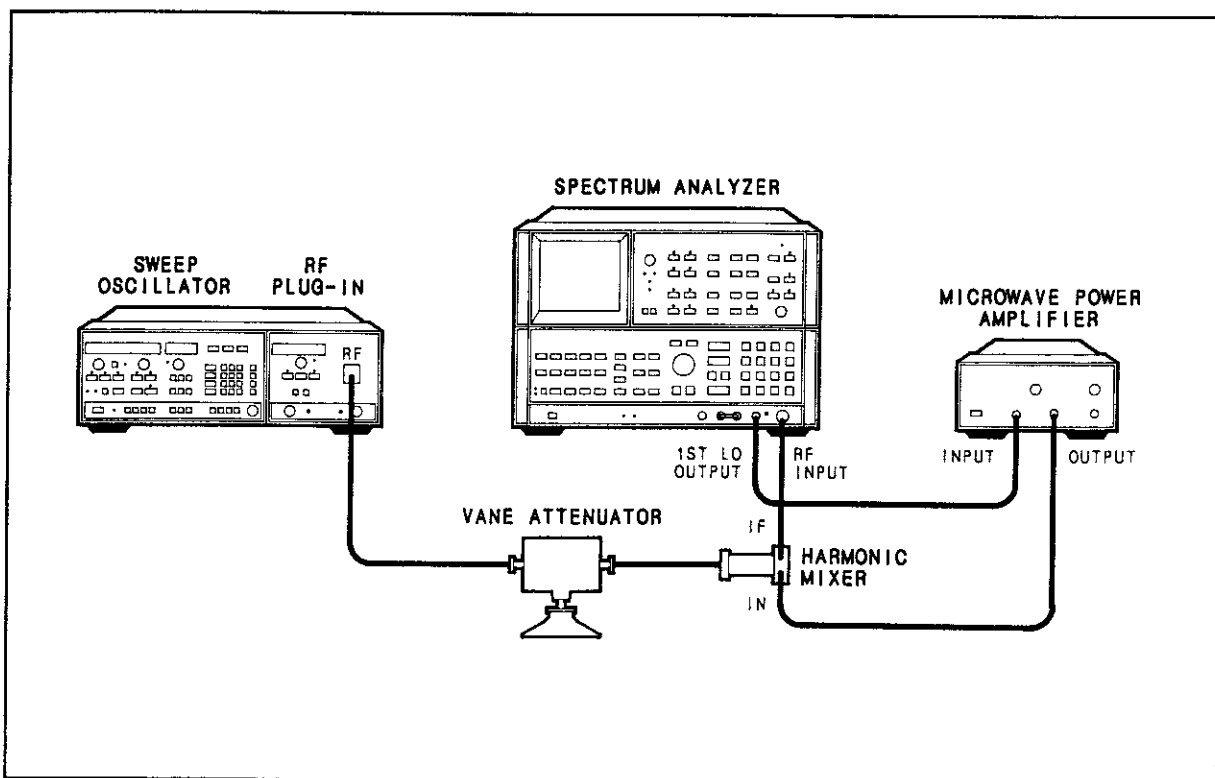

Figure 4-14. AM ON/OFF Ratio and Square Wave Symmetry Test Setup
1. Connect the equipment as shown in Figure 4-14. Set the vane attenuator to 20 dB. Press 8350A/B [INSTR PRESET] [CW] [MOD].